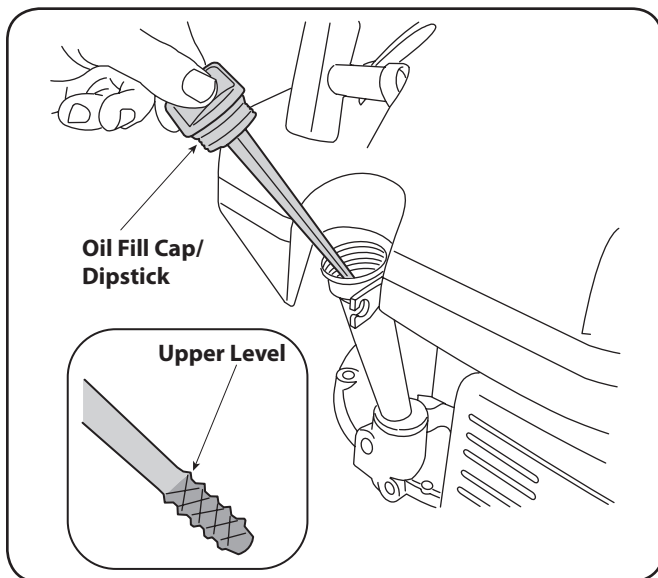

Figure 9-2
1. Remove the oil filler cap and wipe the dipstick clean. See Fig. 9-2.
3. If the level is low, slowly add oil to the upper limit on the dipstick. See Fig. 9-2 inset.